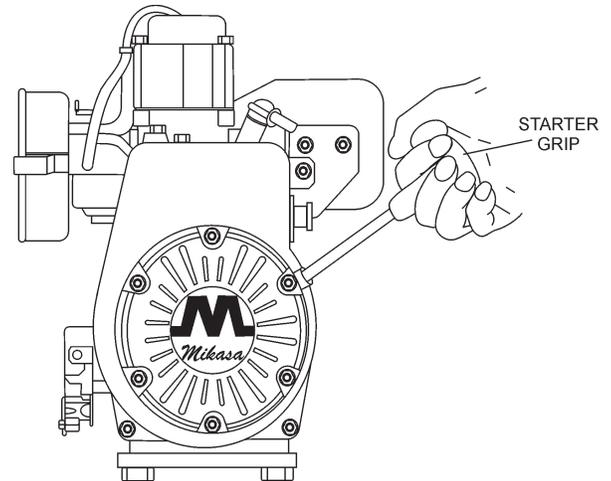

Figure 11. Recoil Starter
- Grip the recoil starter (Figure 11) handle and pull it until you feel a slight resistance. Then pull sharply and quickly. Return the recoil starter handle to the starter case before releasing.